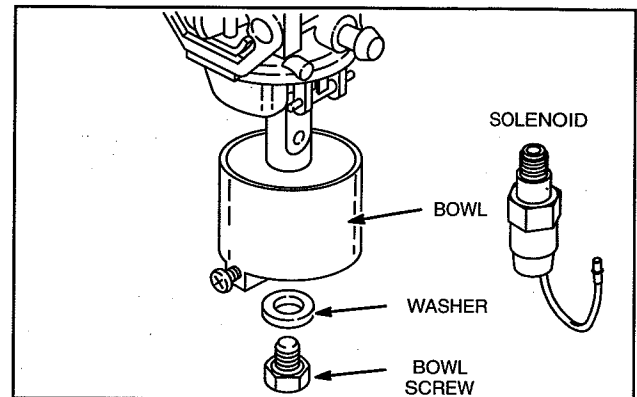

Fig. 5 – Removing Bowl
1. Remove anti-afterfire solenoid or bowl screw, washer and carburetor bowl, Fig. 5.